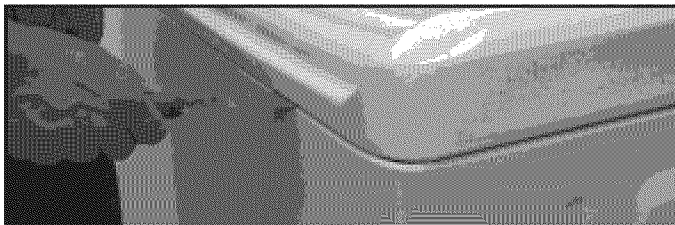

FIGURE 1
2. Tape lid shut before opening top. Open top. See *Figure 1*.